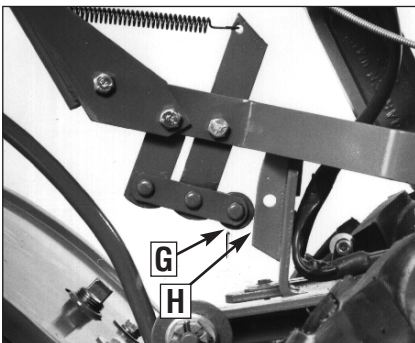

Figure 3-3: NEUTRAL position; roller (G) rests against middle area of the adjustment block (H).
To stop the wheels, tines or any PTO attachment, move the lever to NEUTRAL by tapping the lever upwards (Figure 3-3) and releasing.
- NEUTRAL is this control's normal non-operating position. The lever returns to NEUTRAL when it is tapped out of the FORWARD position or released from the REVERSE position. NEUTRAL position is between FORWARD and REVERSE (Figure 3-3). Use this setting to stop the wheels, tines or any PTO attachment.